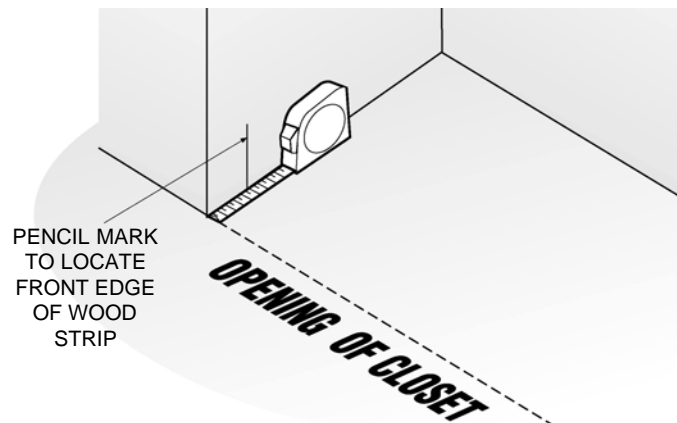

Figure 2
- Find the correct offset measurement using the **Offset Measuring Table** on Page 3 (**B** Measurement) for your particular installation. From the front edge of closet opening inward, measure using dimension from table and make a pencil mark on wall. Do this on both walls, i.e., right and left walls (See Figure 2).